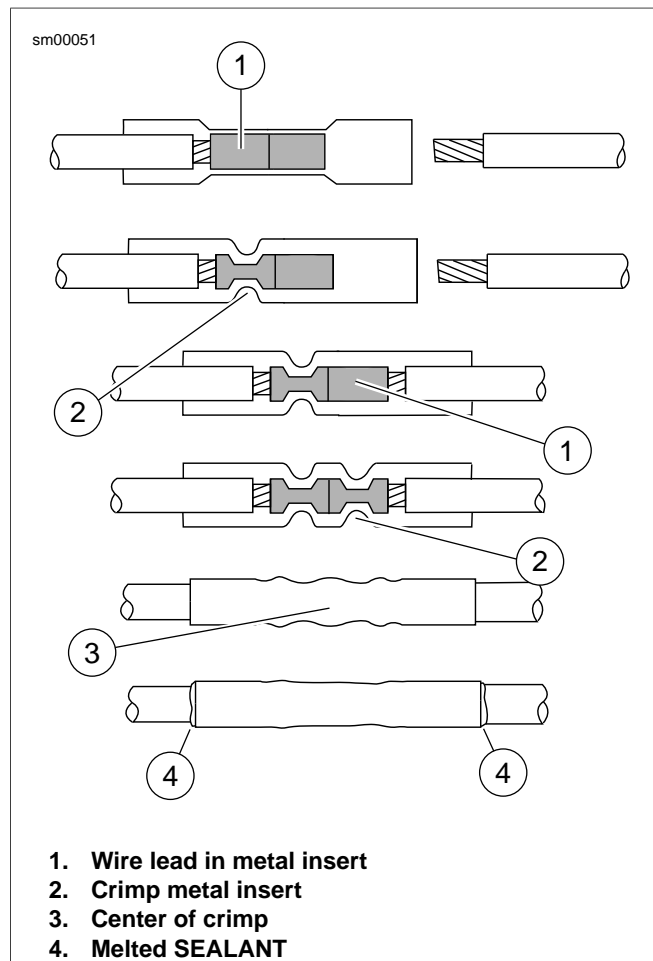

Figure A-77. Sealed Splice Connector
See Figure A-77. The connector is crimped on one side and then the other.
- See Figure A-77. Feed the stripped end of a wire into the connector until the wire stops inside the metal insert (1).
- Squeeze the handles tightly closed to crimp the lead in the insert (2). The tool automatically opens when the crimping is complete.
- Slide the connector to the other half of the metal insert. Insert the stripped wire lead (1) until it stops. Crimp the lead in the insert (2).
See Figure A-77. Allow the splice to cool and inspect the seal. The insulation should appear smooth and cylindrical. Melted sealant will have extruded out the ends (4) of the insulation.